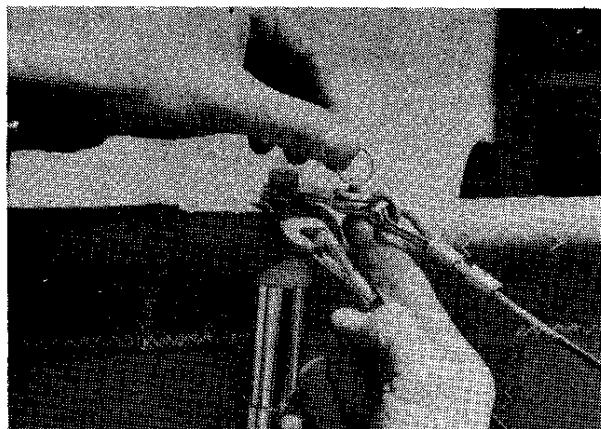

Figure 2.21
27. Connect landing gear side wires to flat tangs on right and left inboard trailing edge wire stations using 3/16" shackles, clevis pins and safety rings. **Figure 2.21**